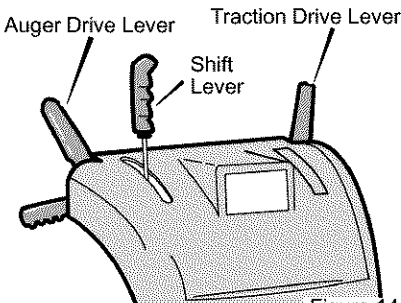

Figure 14
1. To stop throwing snow, release the **auger drive lever**. See Figure 14.
1. To shift, release the traction drive lever (**left hand**) and move the speed shift lever to the speed you desire. See Figure 14. Ground speed is determined by snow conditions. Select the speed you desire by moving the speed shifter lever left into the appropriate notches on the shift lever plate:
1. Push down the auger driver lever (**right hand**). See Figure 14.